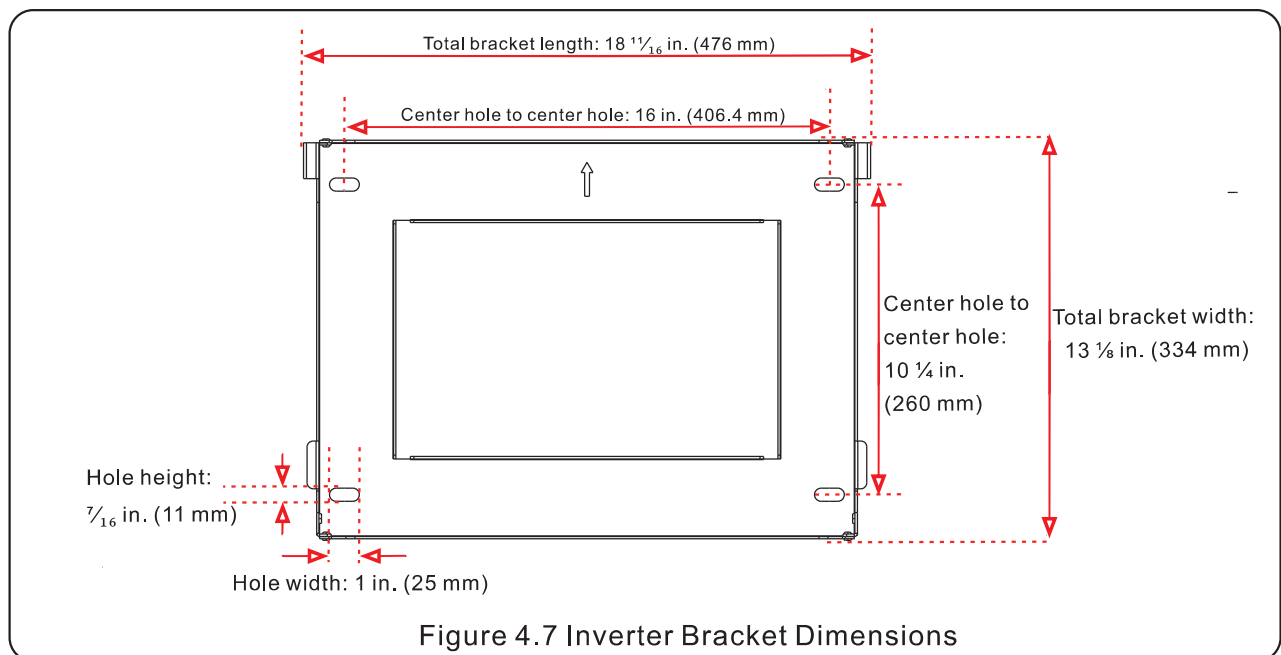

Figure 4.7 Inverter Bracket Dimensions
2. Strip  $\frac{1}{2}$  inch of insulation off the end of the ground cable (see Figure 4.7)